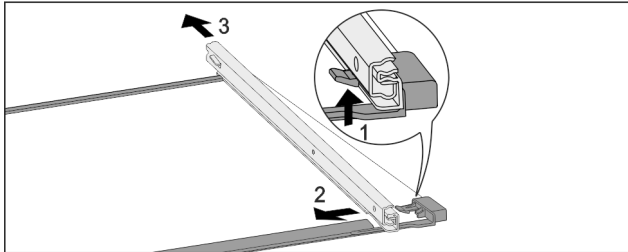

Fig. 253 Glass shelf with rails
- Push up front click-in hooks. Fig. 253 (1)
- Move the pull-out rails to the side Fig. 253 (2) and to the rear Fig. 253 (3).